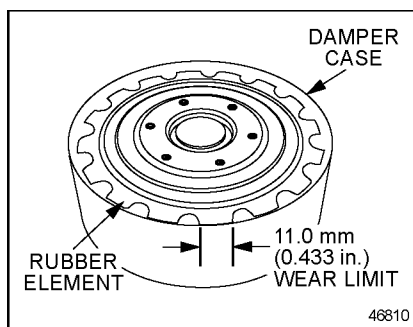

Figure 30 REPTO Torsional Damper
- [b] Inspect the rubber element teeth for wear. If the teeth are worn to less than one-half of the new part length (11.0 mm [0.433 in.]), replace the torsional damper. See Figure 30.